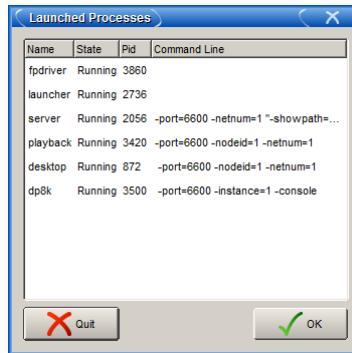

Figure 37.1. The Launched Processes window
1. Pig + Open + Backspace : open the Launched Processes window; see *Figure 37.1, “The Launched Processes window”*.